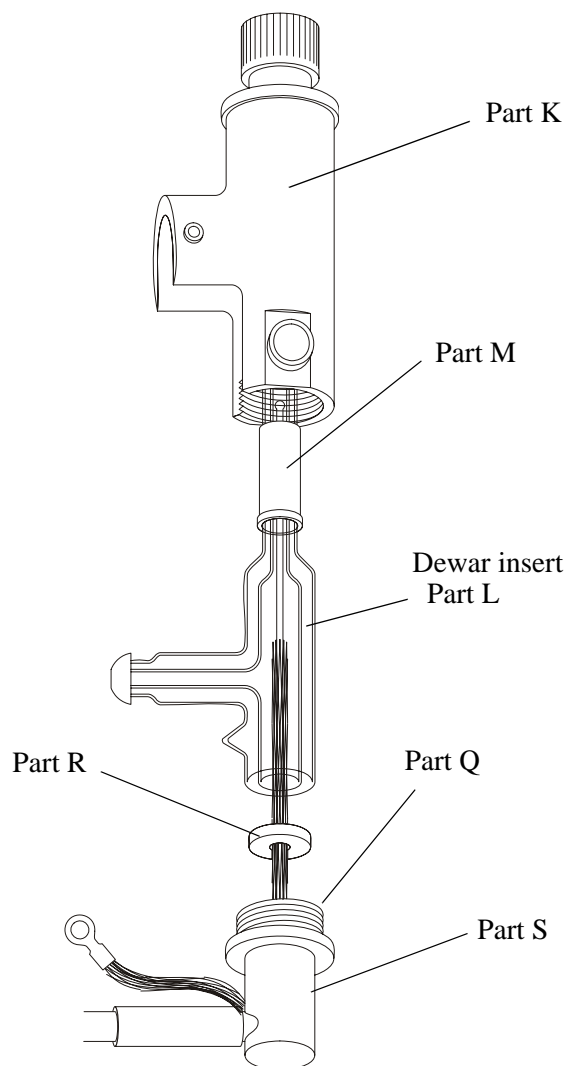

Figure 2-4 Assembling the cryostat for the type B kit.
3. **For the type B kit: thread the heater mounting screw and rubber gasket onto the dewar insert holder.** First, slide the plastic mounting screw and rubber gasket (**parts Q and R**) over the heater/thermocouple (**part S**) all the way to the bottom (mounting screw first). Next, thread the mounting screw onto the bottom of the cryostat body until the rubber gasket presses against the bottom of the dewar insert. Then gently pull the heater/thermocouple assembly out of the cryostat. Assembling in this way assures that the holes in the mounting screw, rubber gasket and dewar insert are lined up properly. (See Figure 2-4.)